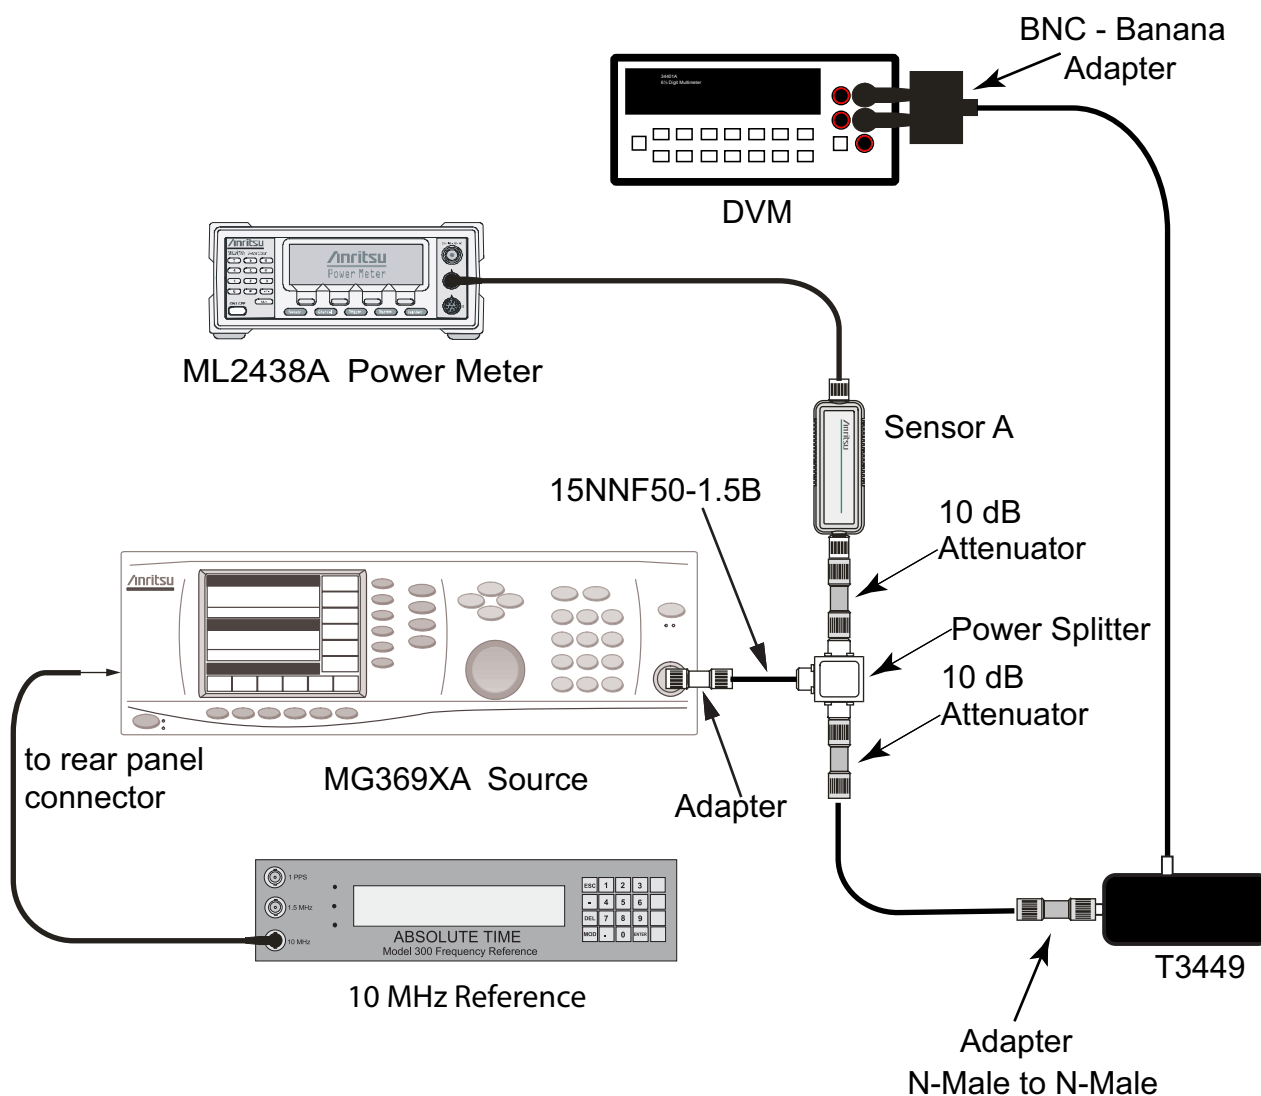

Figure 2-14. 9 kHz to 100 kHz Amplitude Accuracy Verification – Characterization Setup 2
4. Remove Power Sensor B from Port 2, and attach the N female end of the T3449 test fixture to Port 2 through an N male to N male adapter. The BNC output of the T3449 should also be connected to the AC voltmeter voltage input via a BNC male to BNC male coaxial cable and a BNC female to banana plug adapter. Ensure that the voltmeter (DVM) is set to read AC Volts (refer to Figure 2-14).